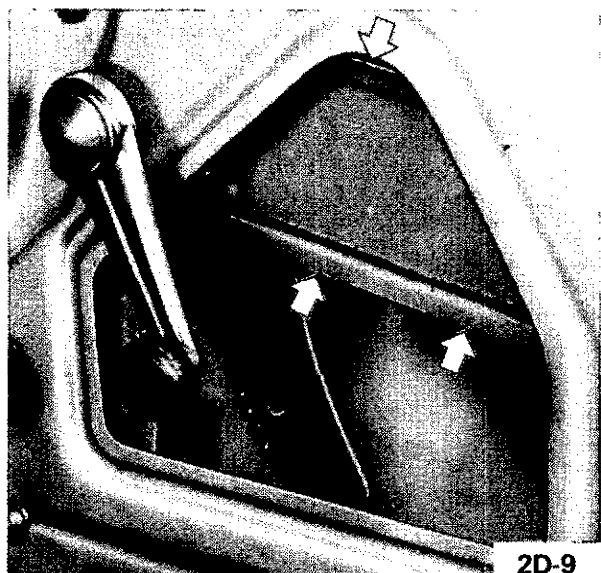

Figure 2D-9 Aligning Main Lever With Front Retaining Plate
4. Adjust sash window so that the main lever with toothed segment are in alignment with the front retaining plate. See Figure 2D-9.